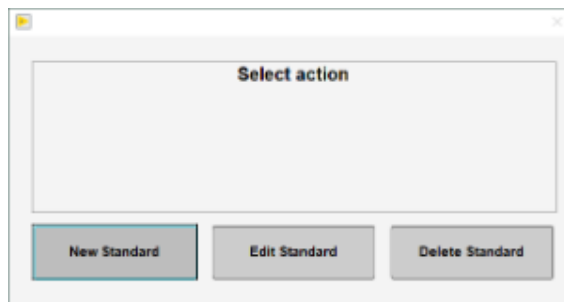

Figure 34. Action Prompt Window
2. Double click on the standard's name under the *Individual Standard's Used* heading. An action prompt will open (Figure 34).